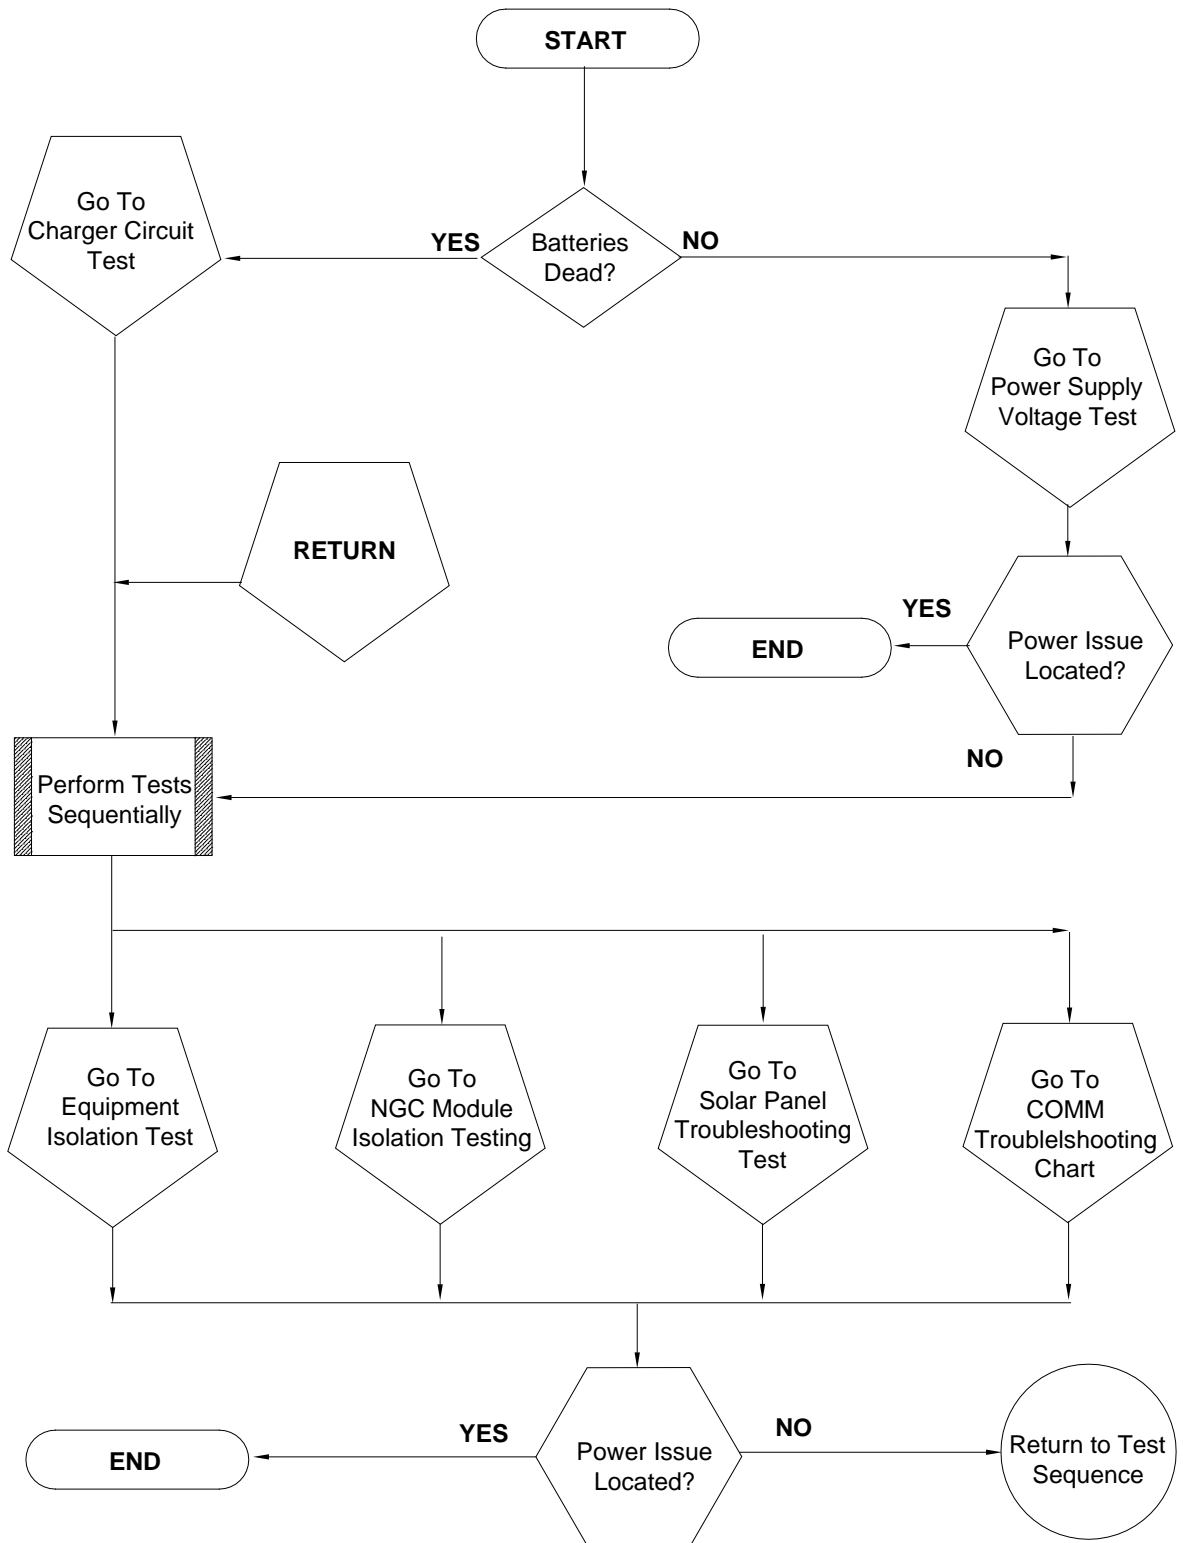

Figure 6-2 Power Troubleshooting Flowchart
(see Figure 6-2) takes the user through several tests, but also directs them to the communication troubleshooting flowchart located later in this chapter.
- 3) Is the external equipment, such as a radio or other device, being powered from the NGC termination panel? If not, return to Figure 6-2 and continue the test sequence. If yes, continue to the next step.
- 6) Is the voltage within limits? If not, return to Figure 6-2 and continue the test sequence. If yes, the external equipment is drawing excessive current. Check the equipment and related wiring. Correct and retest, if necessary.
- 6) If all other testing to this point has not located the error, return to Figure 6-2, Power Troubleshooting flowchart and continue.